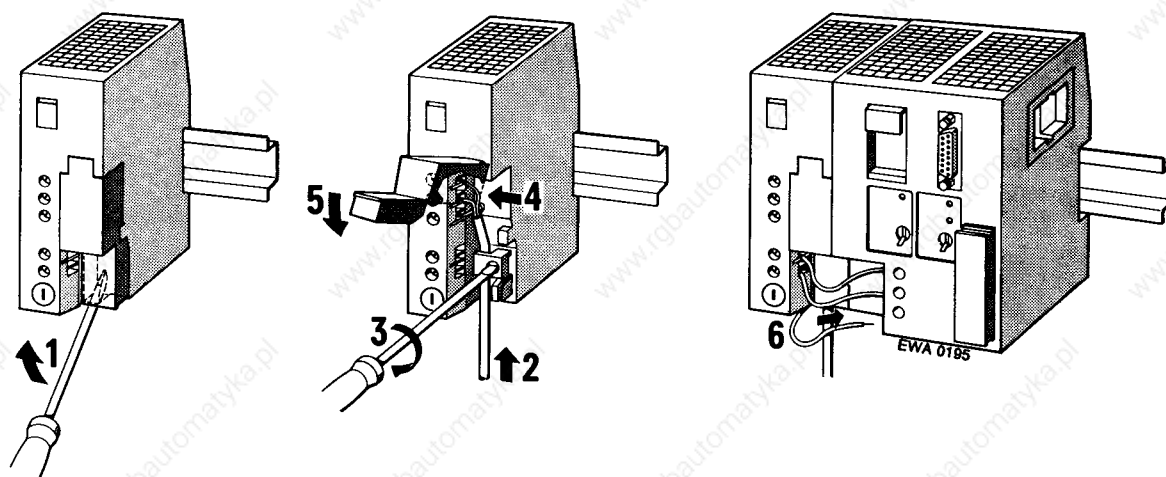

Figure 3-11. Connecting a Power Supply Module and a CPU
3. Connect the supply cable to terminals L1, N and \perp (see Figure 3-11).